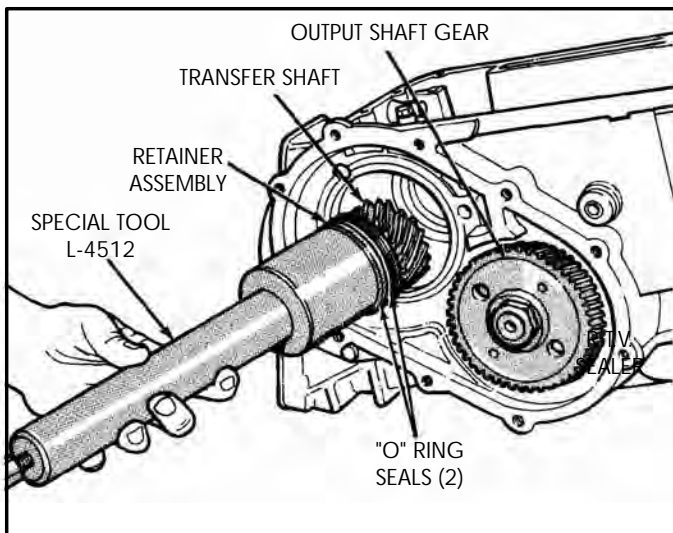

Figure 127
12. Using the slide hammer action, remove transfer shaft and bearing retainer assembly, as shown in Figure 127.